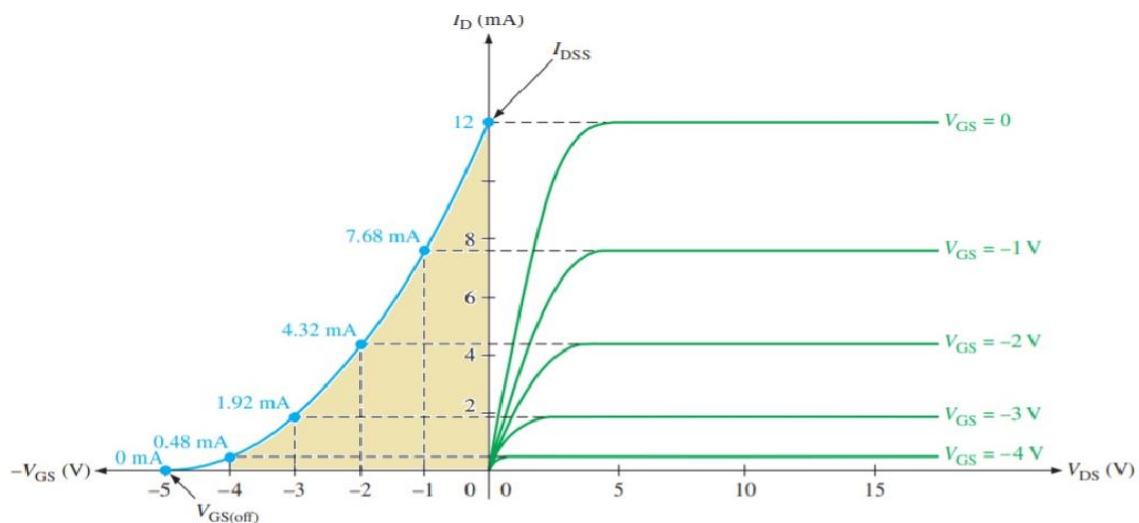

Fig. 4.4 Transfer Characteristics of JFET
Figure 4.4 shows typical transfer characteristics of a low-power n-channel JFET, and illustrates some important features of this type of device. These dopings make a P-N junction in the middle part of the block. We can also form a P-N junction by joining a p-type semiconductor and n-type semiconductor together with a special fabrication technique. The terminal connected to the p-type is the anode. The terminal connected to the n-type side is the cathode.
- Note in Figure 4.4 that, for each  $V_{GS}$  value, drain current  $I_D$  rises linearly from zero as the drain-to-source voltage ( $V_{DS}$ ) is increased from zero up to some value at which a ‘knee’ occurs on each curve, and that  $I_D$  then remains constant as  $V_{DS}$  is increased beyond the knee value. Thus, when  $V_{DS}$  is below the JFET’s knee value, the drain-to-source terminals act as a resistor.
- Note in Figure 4.4 that when  $V_{DS}$  is above the knee value, the  $I_D$  value is controlled by the  $V_{GS}$  value and is almost independent of  $V_{DS}$ , i.e., the JFET acts as a voltage-controlled current generator. The JFET can be used as a fixed-value current generator by either tying the gate to the source, or by applying a fixed negative bias to the gate. Alternatively, it can (when suitably biased) be used as a voltage-to-current signal amplifier.